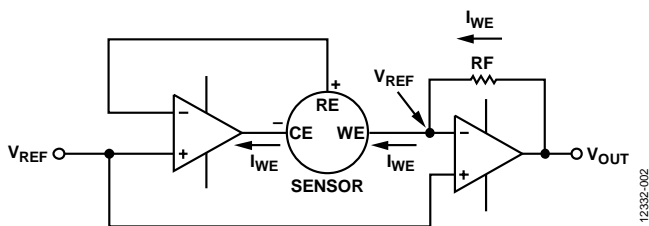

Figure 2. Simplified Electrochemical Sensor Circuit
Figure 2 shows a simplified schematic of an electrochemical sensor measurement circuit. Electrochemical sensors work by allowing gas to diffuse into the sensor through a membrane and by interacting with the working electrode (WE). The sensor reference electrode (RE) provides feedback to Amplifier U2-A, which maintains a constant potential with the WE terminal by varying the voltage at the counter electrode (CE). The direction of the current at the WE terminal depends on whether the reaction occurring within the sensor is oxidation or reduction. In the case of a carbon monoxide sensor, oxidation takes place; therefore, the current flows into the working electrode, which requires the counter electrode to be at a negative voltage (typically 300 mV to 400 mV) with respect to the working electrode. The op amp driving the CE terminal should have an output voltage range of approximately ± 1 V with respect to V_{REF} to provide sufficient headroom for operation with different types of sensors (Alphasense Application Note AAN-105-03, *Designing a Potentiostatic Circuit*, Alphasense, Ltd.).